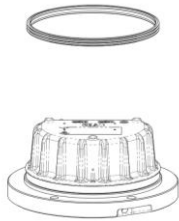

Figure 5-11
- Replace the lighting fixture gasket outside the inner cover: Take down the lighting fixture gasket outside the inner cover and carefully clean the seal groove. Load the new gasket to the correct working position on the inner cover. Please note that the gasket shall not be bent (Figure 5-11).